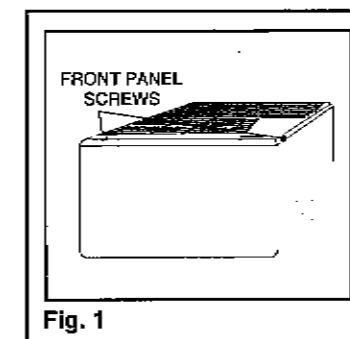

Fig. 1
- Remove the phillips screws located on the (lower left/right) edge of front grill. (Fig. 1)